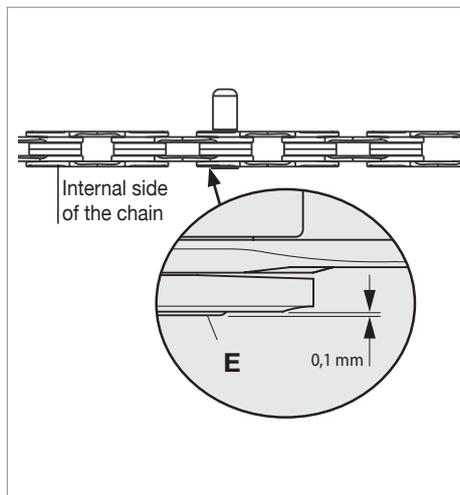

Fig.13
In order to minimize the possibility of damaging the chain irreparably, DO NOT TIGHTEN the tool beyond the beat. Let the bushing ULTRA-LINK 5-CN-SR700 (E) protrude 0.1 mm from the inner side of the chain (**Fig. 13**).